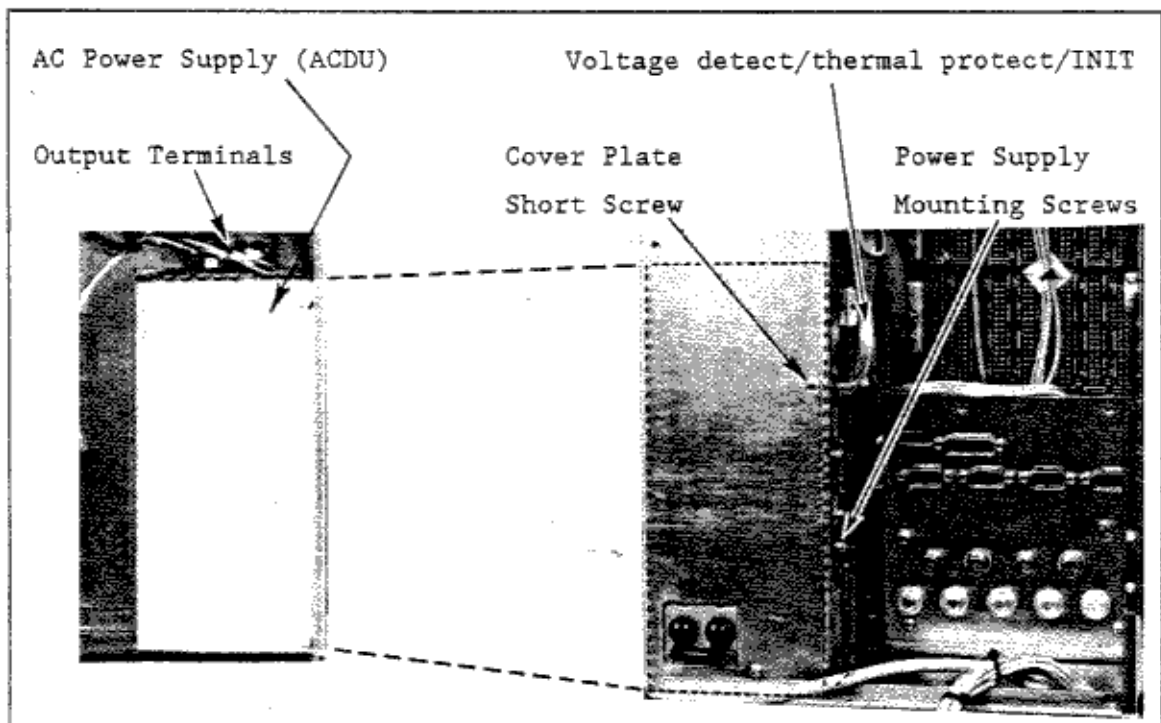

FIGURE 5-2 AC POWER SUPPLY
5. Referring to Figure 5-2, locate and disconnect three output leads (black, white, green) from the ACDU.
6. Inside the rear compartment remove two screws, and on the rear panel remove one screw holding the power supply in the cabinet (see Figure 5-2).
7. When replacing the large cover plate, be sure the short screw is installed in the bottom hole (Figure 5-2).